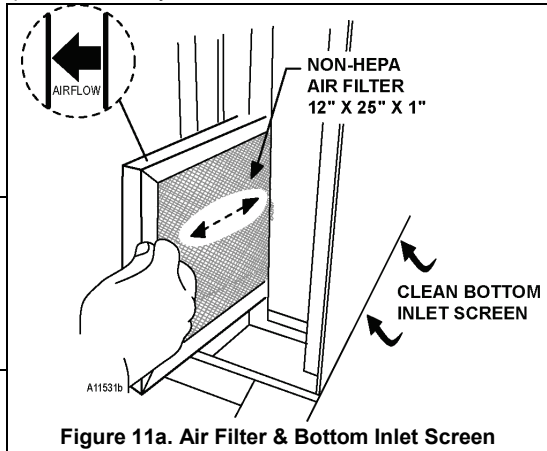

Figure 11a. Air Filter & Bottom Inlet Screen
The inlet screen is a long narrow screen located on the bottom right side. It can only be accessed from underneath the cabinet. See Figure 11a on page 32. Remove dust and debris from the inlet screen to allow air to flow to the condenser coils.
- Is the condenser fan running? Fold a sheet of 8 1/2" x 11" paper in half. Place the paper in front of the condenser coil inlet screen located on the bottom right side underneath the cabinet and see if it draws the paper to it. See Figure 11a on page 32.